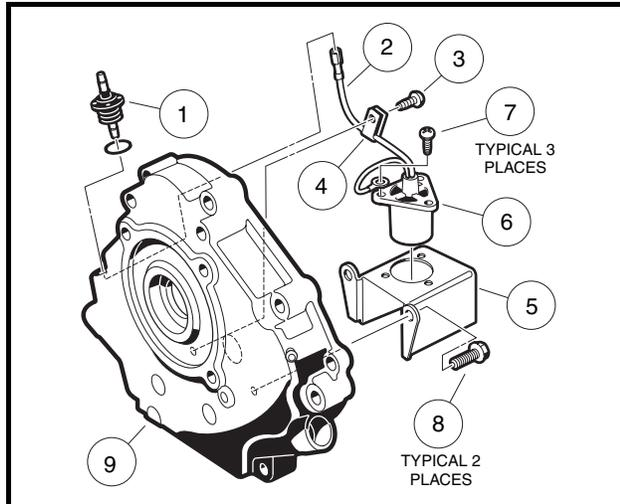

Figure 13-5 Oil Level Sensor
2. Disconnect the oil level sensor wire (2) from the cord connection (1) (**Figure 13-5, Page 13-6**).
3. Remove the screw (3) from the wire clamp (4).
5. If necessary, remove the three screws (7) that hold the sensor to the bracket (5).
1. If the oil level sensor was removed from the bracket, install sensor (6) into bracket (5) and secure with three screws (7) (**Figure 13-5, Page 13-6**). Tighten to 17 in-lb (1.9 N·m).
3. Connect sensor wire (2) to cord connector (1) (**Figure 13-5, Page 13-6**).
4. Install screw (3) through wire clamp and into crankcase cover. Tighten to 30 in-lb (3.4 N·m).